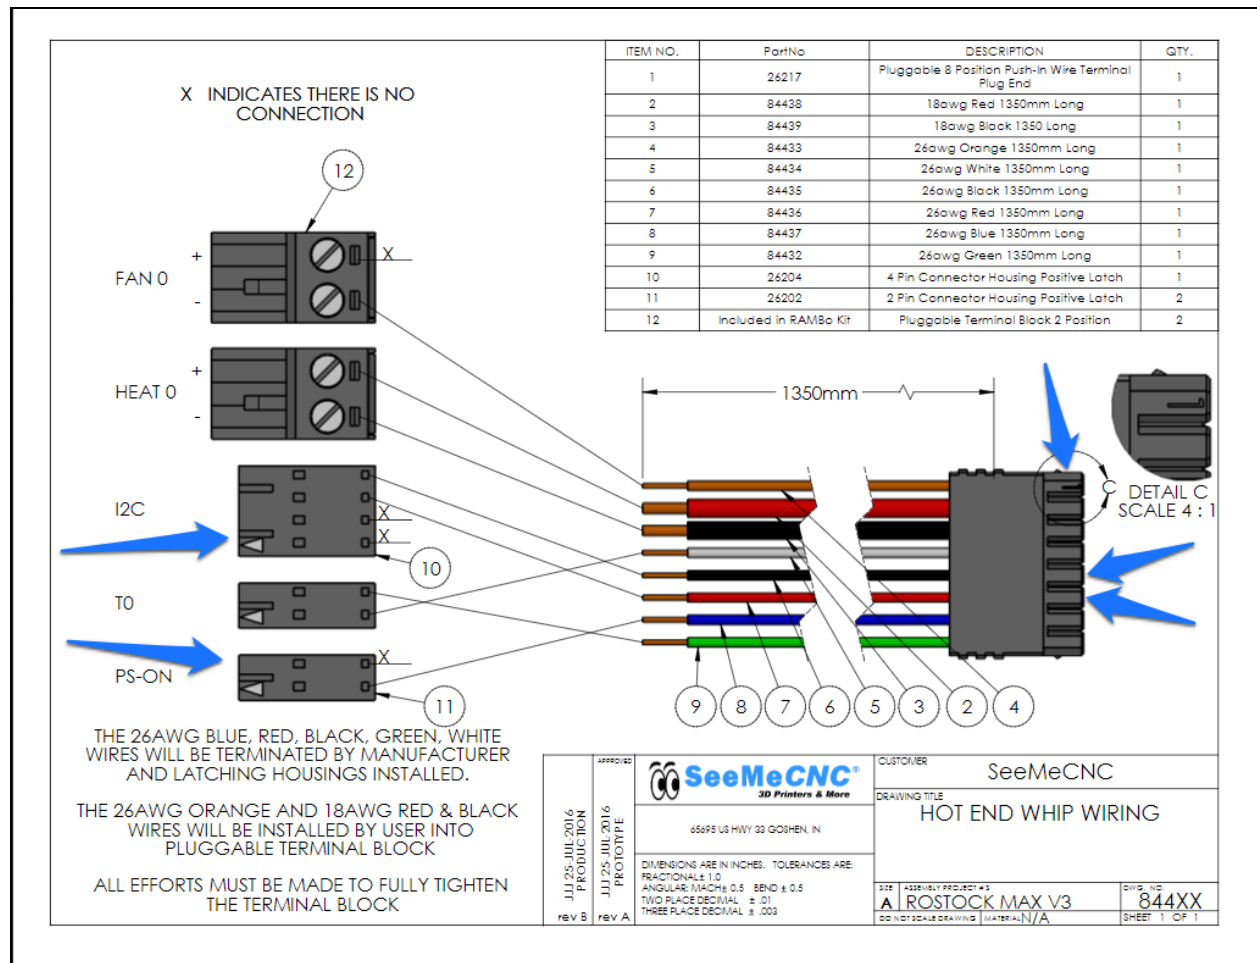

Figure 3 HE280 Whip Wiring for i2c
2. Ensure that you have the wires in the correct locations of the 8 position terminal connector and that they are fully seated. The wires for i2c are the Black and Red 26awg wires. . (see Figure 3 below)
2. Ensure that you have the PS-ON wire in the correct location of the 8 position terminal connector and that it is fully seated. The wires for PS-ON is the blue 26awg wire. (see Figure 3 above)